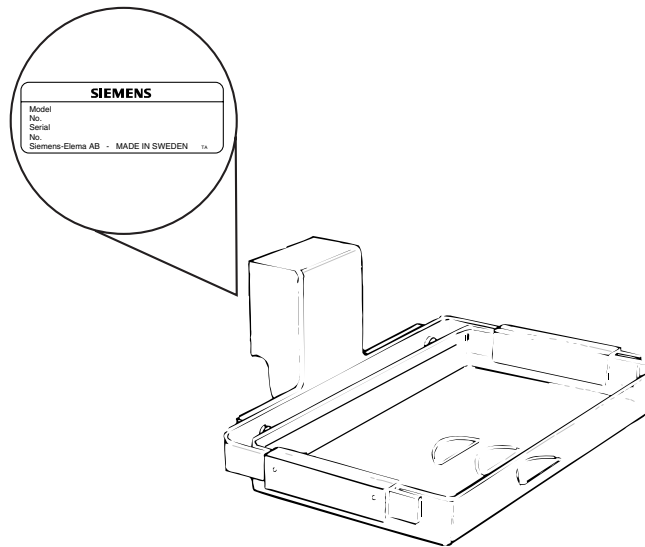

Fig. 6
1. Remove the old identification label (Fig. 6) and dispose of it.